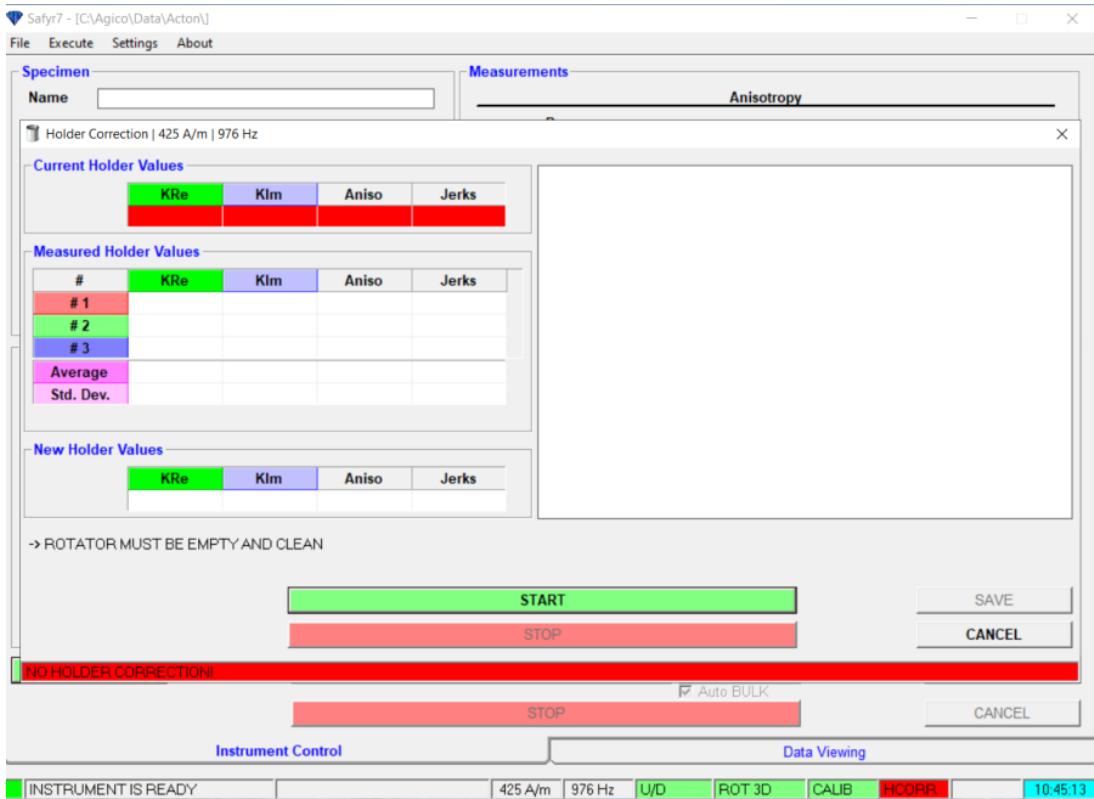

Figure 21: Holder Correction Window
8. Select **Execute: Holder Correction** or press F4 to open the Holder Correction window (Figure 21).